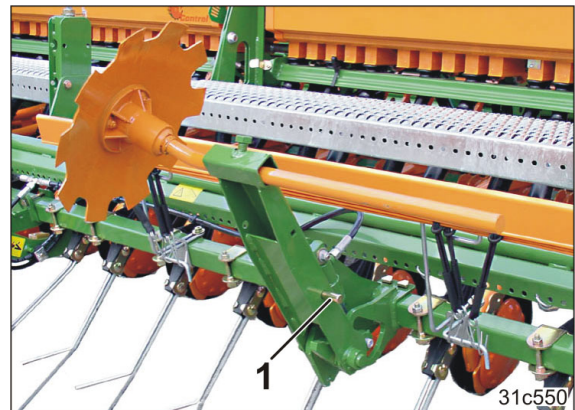

Fig. 211
1. Hold the track disc carrier, remove the pin (Fig. 211/1) and swivel the track disc carrier downwards.